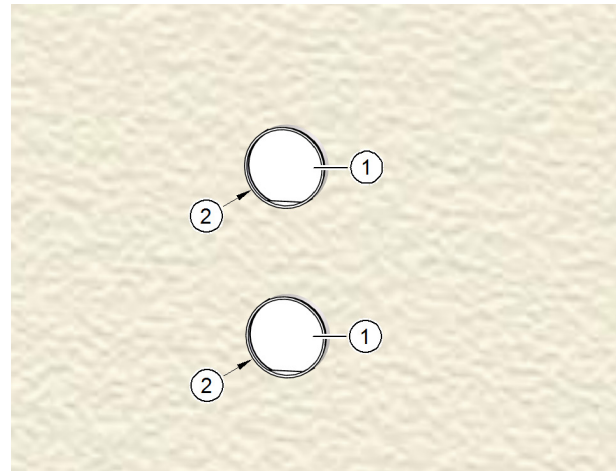

Fig. 26: Wall box plastered on the outside
- ▶ Remove the two protective sleeves (item 1 in Fig. 26).
- ▶ Chamfer both pipe breakthrough edges (item 2 in Fig. 26) to roughly 5x45° to create enough space for the silicone bead.